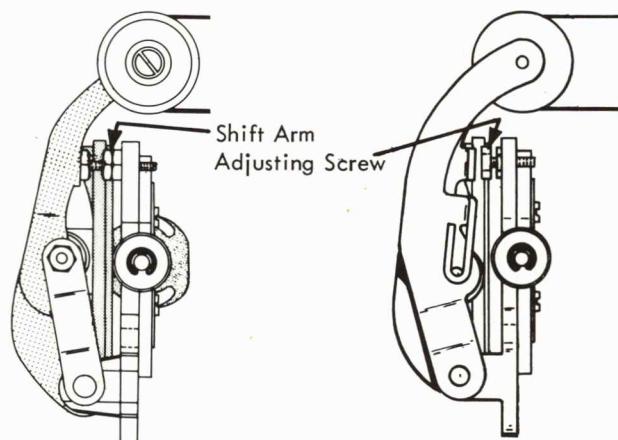

FIGURE 87. Shift Motion Adjustment
14. **Shift Motion** - The shift arm adjusting screw (Fig. 87) should be adjusted in or out to obtain 180° rotation of the typehead during a shift operation.